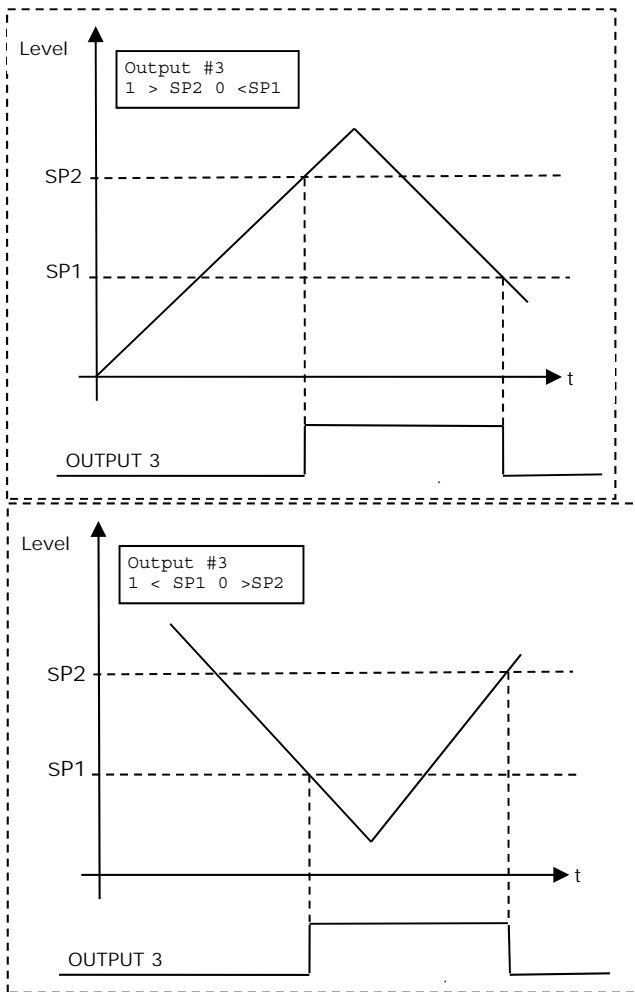

Figure 10: Setting hysteresis for Output 3
- there are 2 additional options for this output, these are explained in Figure 10